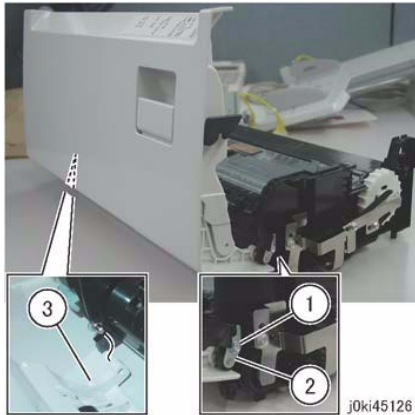

Figure 1 Top Cover Removal
9. Remove the Top Cover. (Figure 1)